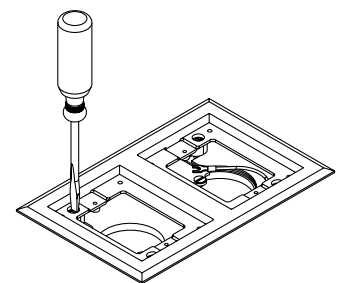

Figure 6
6. Tighten flange to adapter using a narrow blade flathead screwdriver. **Do not over tighten flange. Tighten until flange is snug to carpet or tile surface** (see Figure 6).